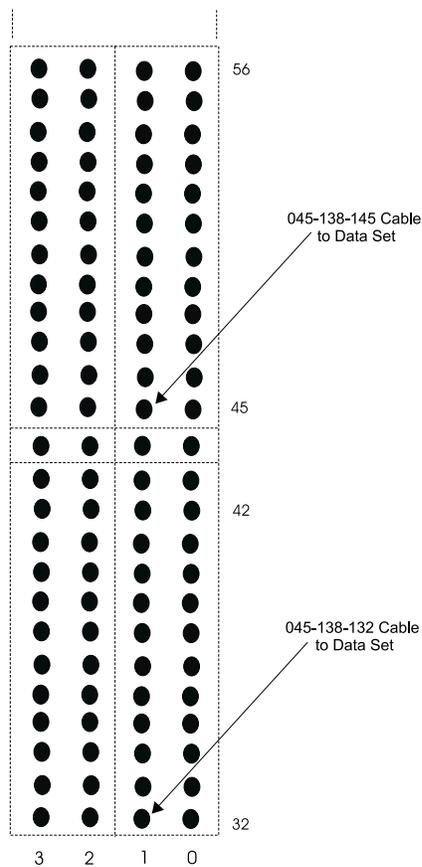

Figure 1. Backplane Cable Location
1. Using Figure 1, at back of the 3B21D APS cabinet, determine location for connecting the SDL 22 cable (EQLs 45-138-145 and 45-138-132).